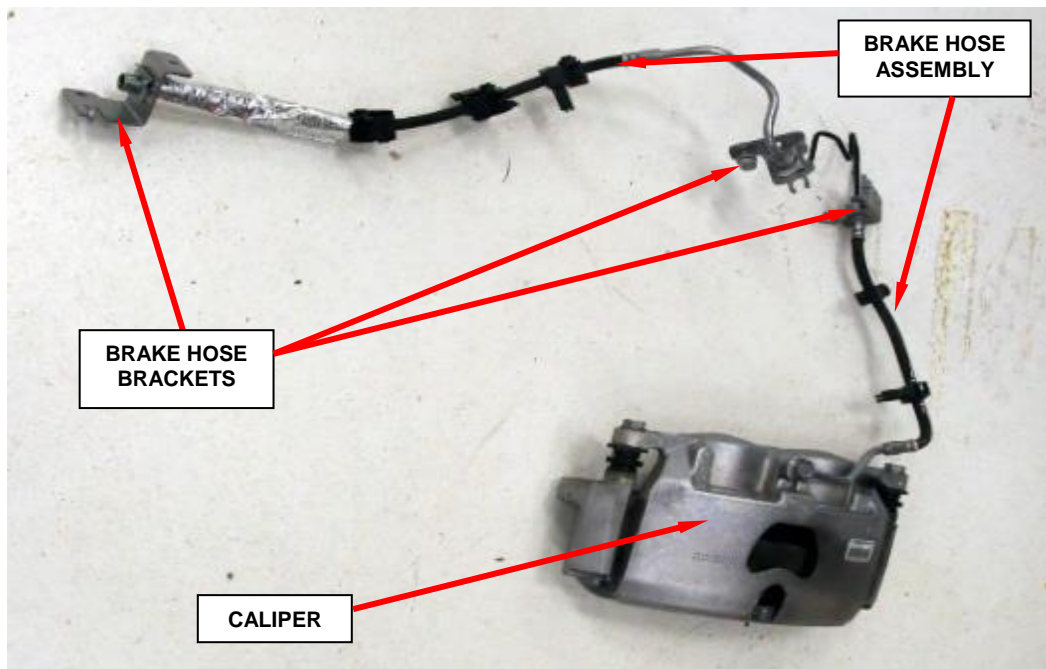

Figure 5 – Remove and Discard Assembly
9. Remove and **DISCARD** the brake caliper, adaptor bracket and brake hose as an assembly (Figure 5).